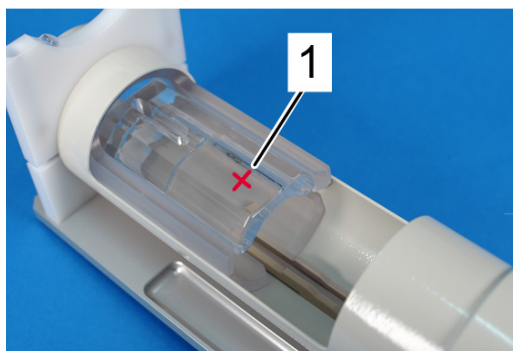

Figure 4.8: Rat Position Gauge for testing the correct position of the rat. The cross marks the center of the Coilhead.
The Rat Position Gauge (Figure 4.8) displays the real situation of placing an imaging setup underneath the Coilhead. Therefore, it does have two functions. For safety reasons it has to be used to check for any possible collision of the imaging setup and the Coilhead. Furthermore, it can be used to check for the correct position of the imaging setup in relation to the Coilhead and the functionality of the lifting mechanism.
- The cross on the acrylic glass marks the centre of the Coilhead (Figure 4.8 (1)). It can be used to check for the correct position of the subject to be imaged in relation to the Coilhead.